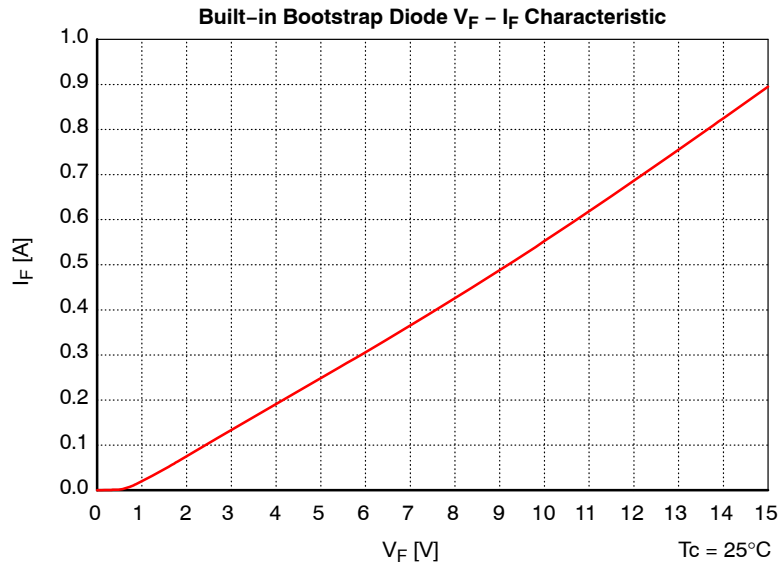

Figure 2. Built-in Bootstrap Diode Characteristics (Typical)
8. Built-in bootstrap diode includes around  $15\ \Omega$  resistance characteristic. Please refer to Figure 2.